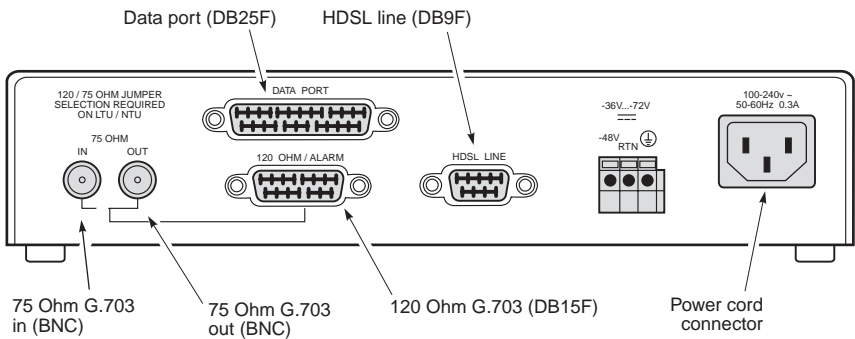

Figure 7. ERE-811 List 2 Rear Panel
- 2 Jumpers P11 and P12 configure the line unit for use with a 75 Ω or 120 Ω G.703 interface (see Figure 7 on page 11). Place the four-position jumper block on one of the following:
- 4 Connect the E1 port cable DB-15F (see **Figure 7** on page 11), if applicable. The ECA-806 List 1 (DB-15M to RJ-45C) and the ECA-808 List 1 (DB-15M to RJ-45X) adapters can be used when connecting the cable.
- 5 Connect the Nx64K data port cable DB-25F (Figure 7), if applicable. The following adapters can be used when connecting the cable:
- 6 Connect the HDSL line port cable DB-9F (Figure 7).